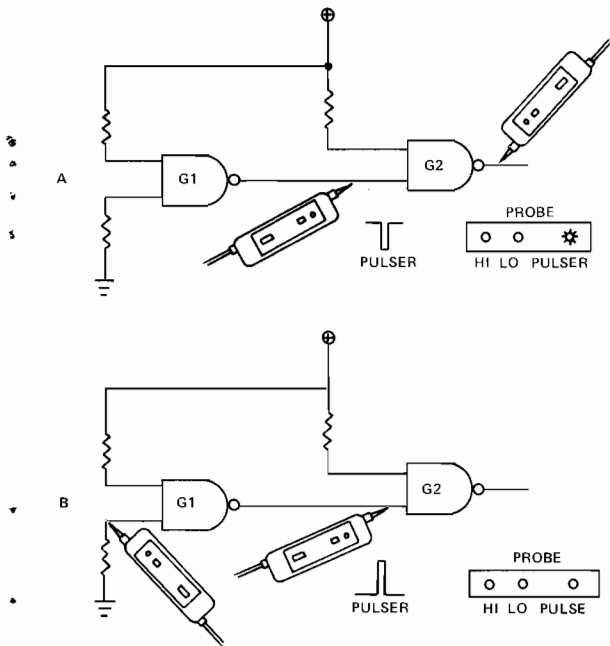

Figure 4
Figure 4 shows this method of troubleshooting:
In Figure 4 (A) a two gate circuit is being tested. G1's output is held high, causing G2's output to be low. By applying the pulser to the output of G1, the pulser overrides the out state of G1 and puts a train of "zero" pulses into the gate of G2. The logic probe connected to the output of G2 has its low LED on but now the pulse LED starts flashing. This shows the gate is passing the input pulses in proper polarity.
In Figure 4 (B) the probe is moved to the output of G1 and the pulser is applied to the low gate input. The pulser now produces a series of (one) pulses when the pushbutton is held down. However the probes pulse LED does not respond, indicating a defective gate.